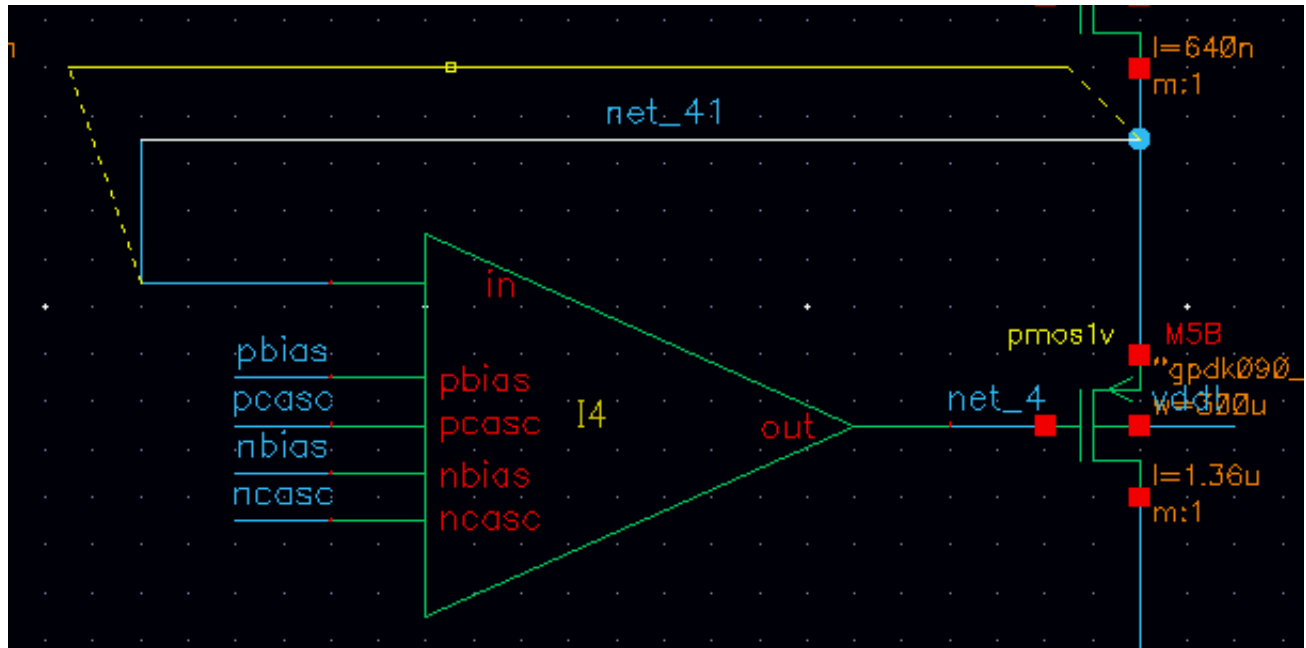

Figure 7-5 Wire option unchecked so only wire segment directly connected will be rerouted
- When the *wire* option is **not checked**, *only* the wire segments that are directly connected to the selected wire will be rerouted (as shown in Figure 7-5 on page 477).